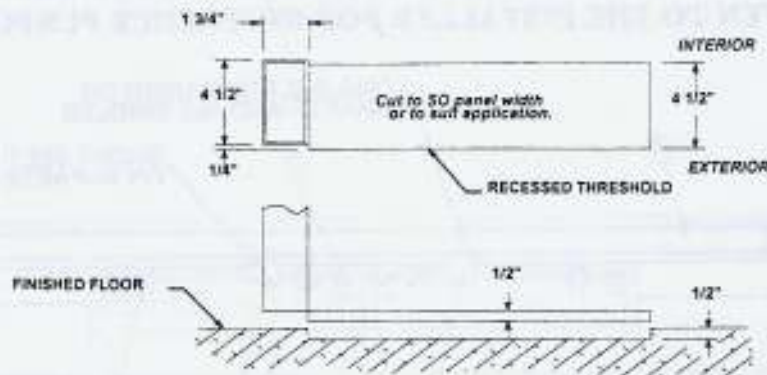

Figure 3
4. Check the track recesses if they are used (See Figure 3).